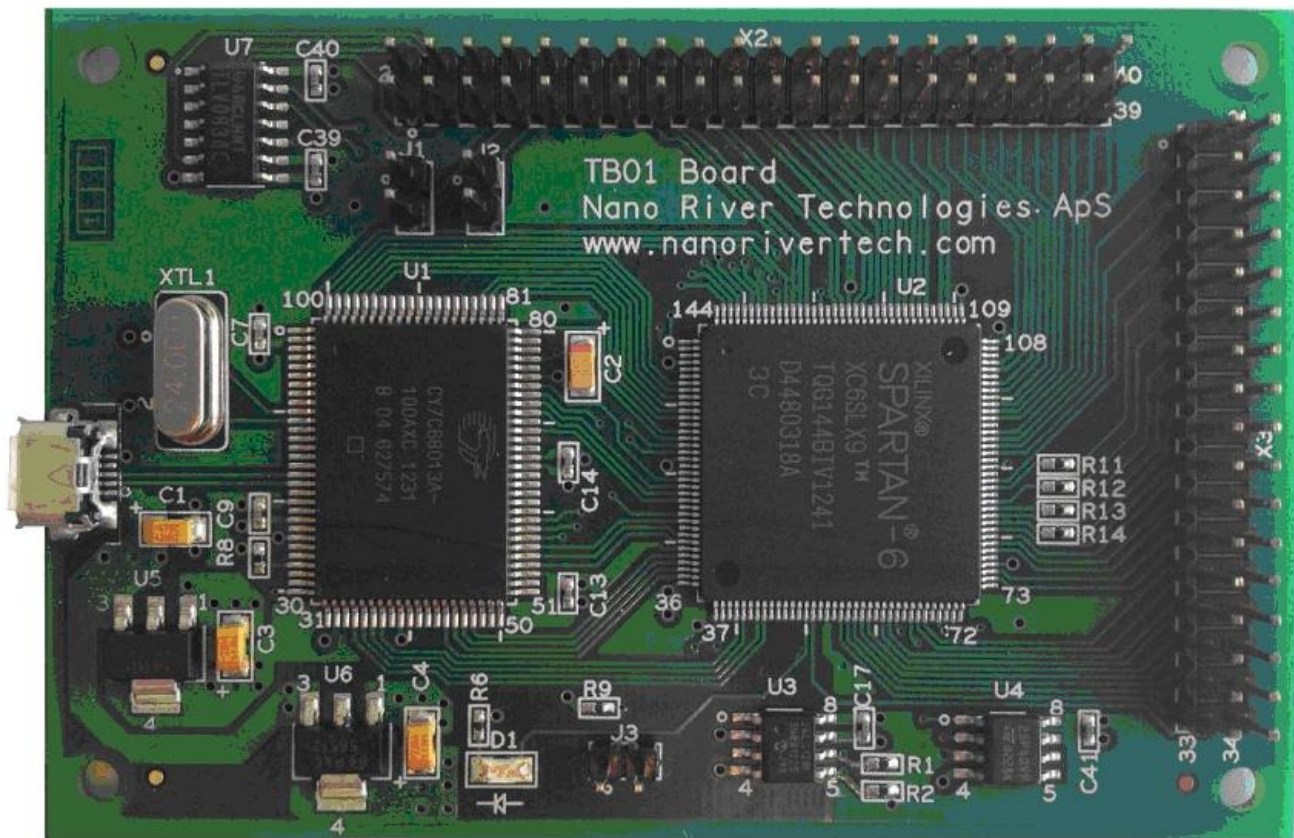

Fig. 1. Tiger Board
1. The Tiger Board shown in Fig. 1 is a universal USB-controlled Master/Slave SPI/I2C/JPIO interface. For the current application, it is configured as a 5-channel SPI interface. It includes a SPARTAN-6 FPGA with support components, a micro-USB connector, as well as a 40-pin and 34-pin male connectors. The board measures approximately 3.2x2.4 inches. More details can be found on the Nano River Technology web site at <http://www.nanoriverteChom/tigerboard-software.html> , specifically in the http://www.nanoriverteChom/files/doc/TigerBoardUserGuide_ver_Nov12.pdf document.